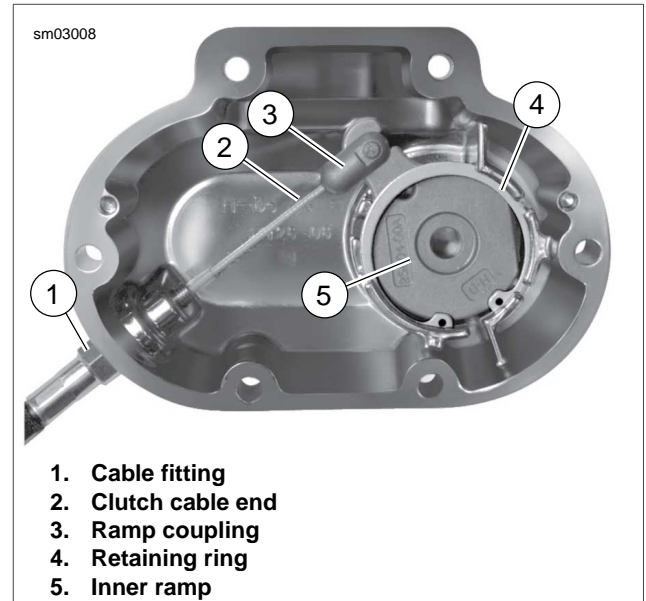

Figure 7-4. Clutch Cable Connection
6. See Figure 7-4. Remove retaining ring (4). Lift inner ramp (5) and ramp coupling (3) out of clutch release cover. Disconnect clutch cable end (2) from the ball and ramp coupling.
1. See Figure 7-4. Screw clutch cable fitting (1) into clutch release cover. Do not tighten at this time.
See Figure 7-4. Retaining ring opening must be centered above the break in the ribbing at bottom of the clutch release cover.